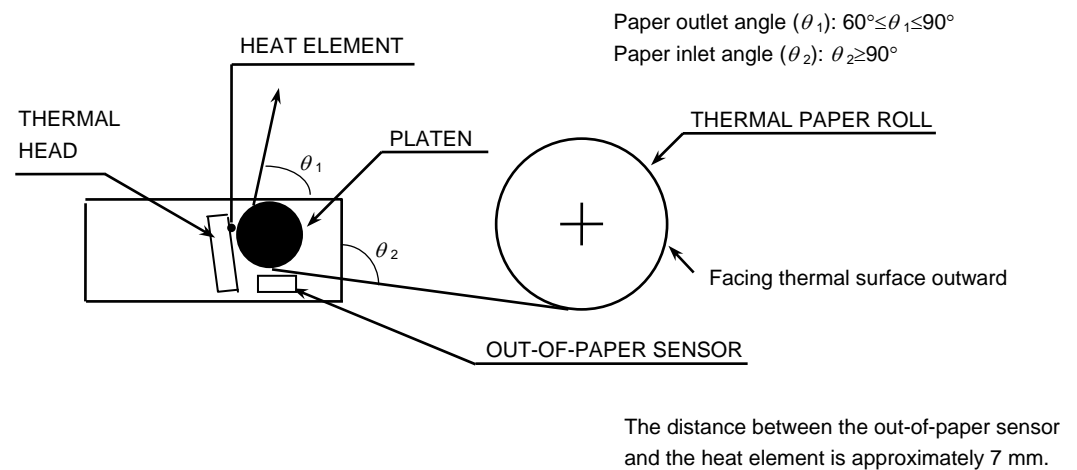

Figure 6-4 Paper Path
- The printer can be laid out as shown in **Figure 6-4** according to the loading direction of the paper.